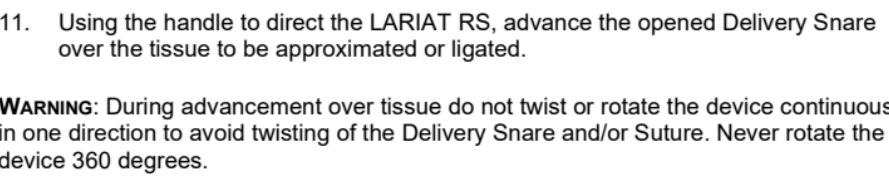

Figure 3 Opening the Delivery Snare
- If using the SofTIP or Trocar, advance the Snare Loop Introducer from the handle towards the tip until it covers the closed Delivery Snare. Introduce the LARIAT RS into the SofTIP or Trocar. Pull back the Snare Loop Introducer until it locks to the Handle Strain Relief as shown in Figure 3.
- To open the Delivery Snare, advance the Snare Actuator Slide until it stops and Delivery Snare is fully open as represented by the “O” (oval) symbol as shown in Figure 3.